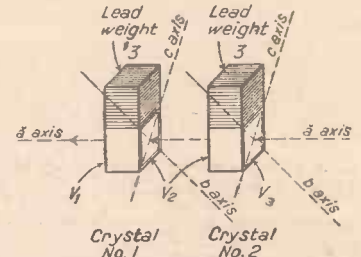

Fig. 3.—Diagram demonstrating that piezo-electric response is proportional to total weight.
To perceive readily the reasons for the advantages arising from this type of construction, it is necessary to review some fundamental experiments in piezo-electricity. In order to generate electricity by means of pressure we will take a block of Rochelle salt, say one inch wide, as in (1) Fig. 3. The A, B, and C axes are as shown and the "leads"  $V_1$  and  $V_2$  connected to an electro-static voltmeter (not shown). When the weight 3 is placed on the crystal block 1, the voltmeter will show a deflection. If the block and charge are short-circuited to bring the meter to zero and then the short is removed, the deflection will be equal and opposite when the weight is removed. The deflection will increase if the weight is increased and will be less for a lesser weight. If the electrodes on the blocks are connected in series at